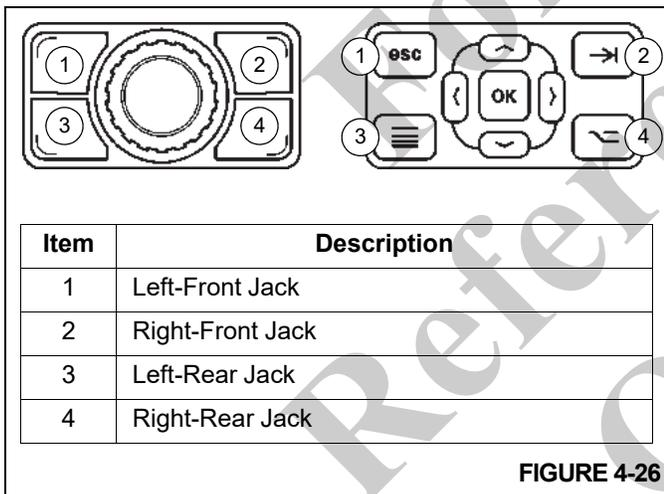
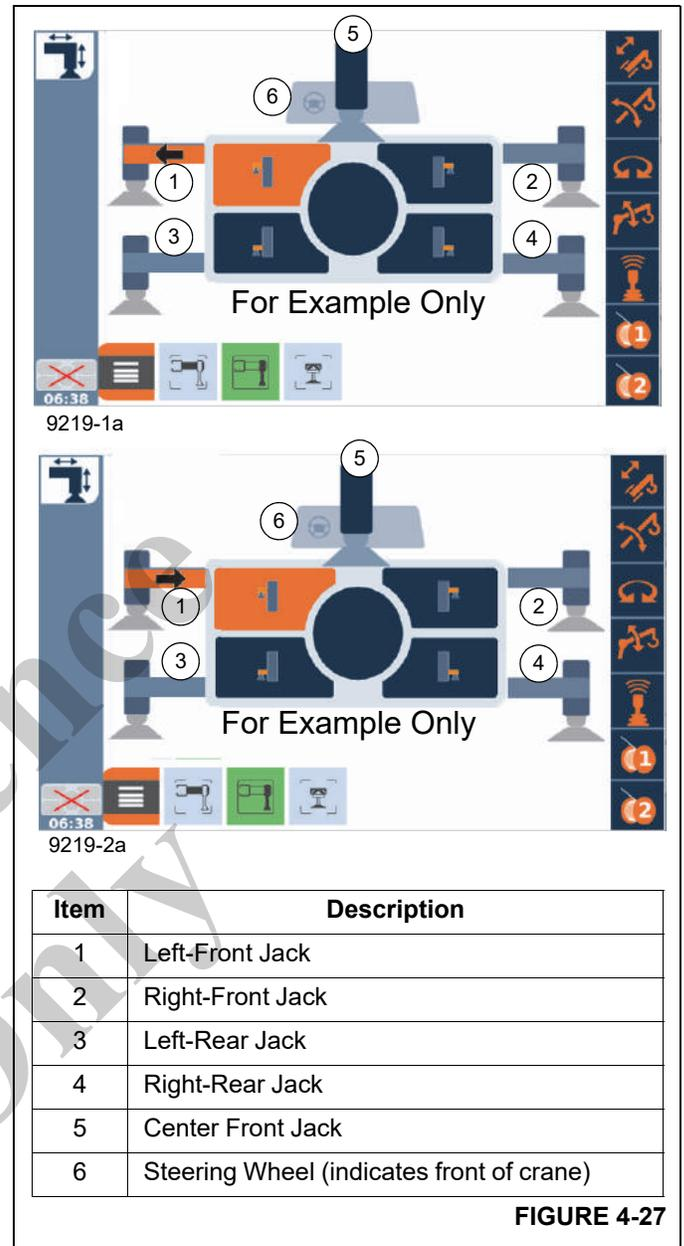

FIGURE 4-26
FIGURE 4-27
- To extend the O/R Beams, position the Outrigger Extend/Retract Switch (refer to *Outrigger Extend/Retract Switch*, page 3-29) in the left-hand armrest to the extend position, then press any or all of the four buttons (Figure 4-26) at the Jog Dial or the Navigation Control Pad (Figure 4-26).
To retract the O/R Beams, position the Outrigger Extend/Retract Switch to the retract position, then press any or all of the four buttons (Figure 4-26) at the Jog Dial or the Navigation Control Pad (Figure 4-26).
**NOTE:** The O/R Beam positions correspond to the four buttons at the Jog Dial and ODM Navigation Control Pad (Refer to Figure 4-26 and Figure 4-27).
When a button at the Jog Dial or Navigation Control Pad is pressed and held, the corresponding O/R Beam image turns orange to indicate that it is active. An arrow will appear to indicate whether the beam is extending or retracting. The following (EXAMPLE ONLY), (Figure 4-27) shows the Left-Front O/R Beam is extending or retracting.
3. To extend the O/R Jacks, position the Outrigger Extend/Retract Switch (refer to *Outrigger Extend/Retract Switch*, page 3-29) in the left-hand armrest to the extend position, then press any or all of the four buttons (Figure 4-26) at the Jog Dial or Navigation Control Pad (Figure 4-26).
To retract the O/R Jacks, position the Outrigger Extend/Retract Switch to the retract position, then press any or all of the four buttons (Figure 4-26) at the Jog Dial or Navigation Control Pad (Figure 4-26).
**NOTE:** The O/R Jack positions correspond to the four buttons (Figure 4-26) at the Jog Dial and ODM Navigation Control Pad (Figure 4-26).